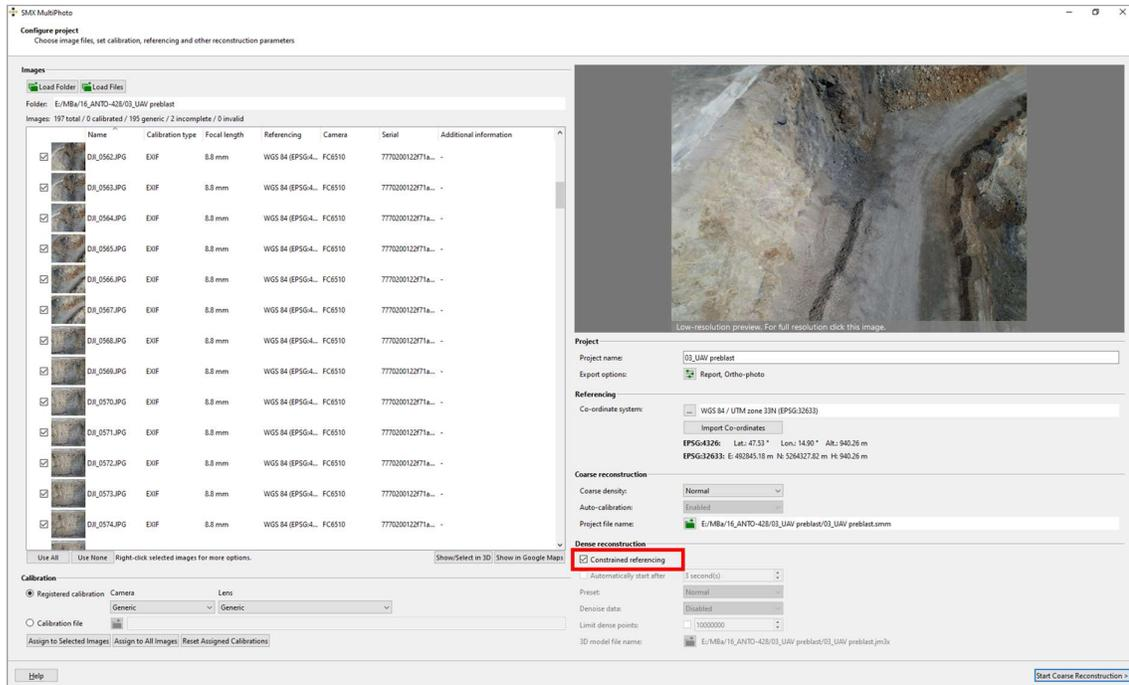

Figure 32: Enabling of the Constrained Referencing Mode
8. Enable the reference mode *Constrained Referencing* (Figure 32)